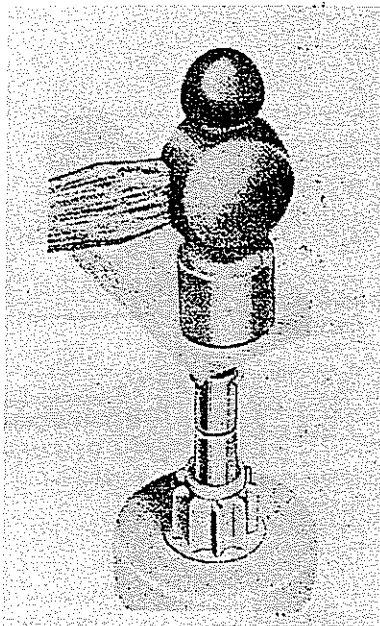

Figure 8—Forcing snap ring over shaft.
- b. Place the snap ring on the end of the shaft. With a piece of wood on top of it, force the ring over the shaft with a light hammer blow (Fig. 8), then slide the ring down into the groove.